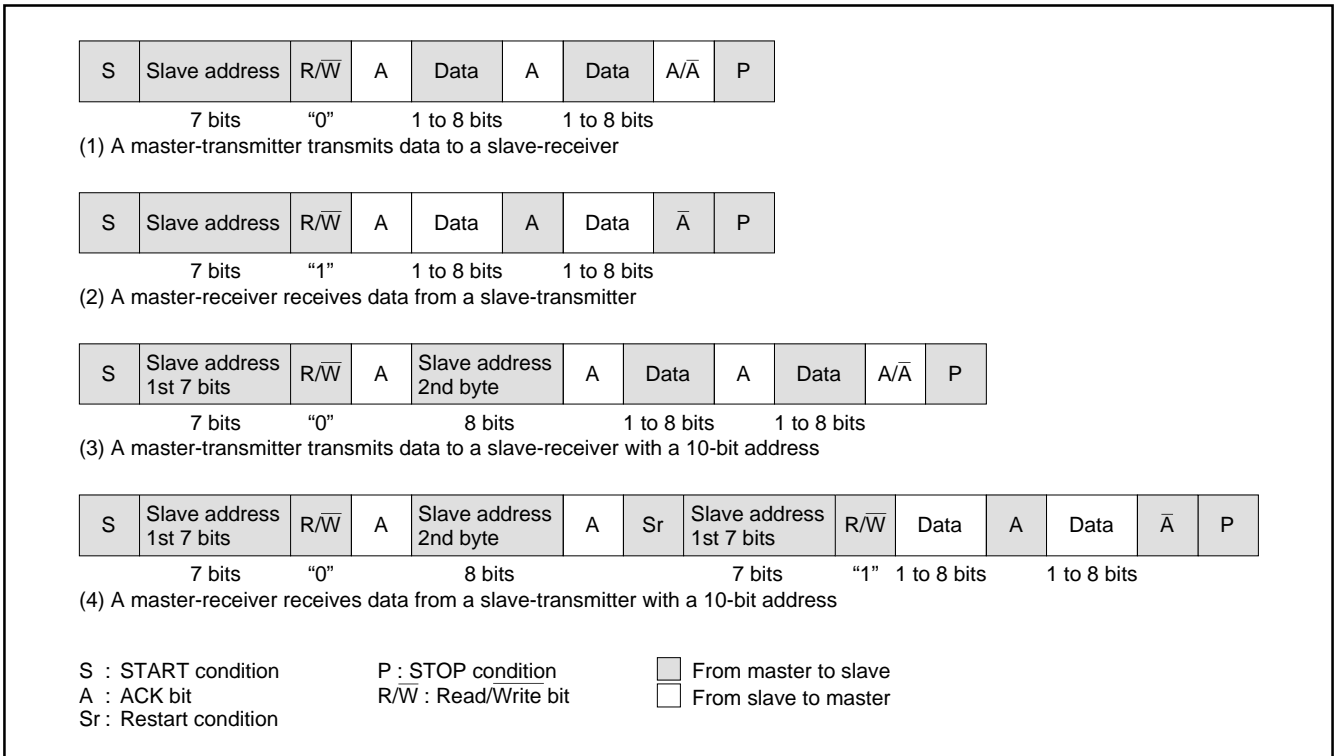

Fig. 61. Address Data Communication Format
To meet the 7-bit addressing format, set the 10BIT SAD bit of the I2C control register (address 00F916) to "0." The first 7-bit address data transmitted from the master is compared with the high-order 7-bit slave address stored in the I2C address register (address 00F716). At the time of this comparison, address comparison of the RBW bit of the I2C address register (address 00F716) is not made. For the data transmission format when the 7-bit addressing format is selected, refer to Figure 61, (1) and (2).
When the first-byte address data matches the slave address, the AAS bit of the I2C status register (address 00F816) is set to "1." After the second-byte address data is stored into the I2C data shift register (address 00F616), make an address comparison between the second-byte data and the slave address by software. When the address data of the 2nd bytes matches the slave address, set the RBW bit of the I2C address register (address 00F716) to "1" by software. This processing can match the 7-bit slave address and R/W data, which are received after a RESTART condition is detected, with the value of the I2C address register (address 00F716). For the data transmission format when the 10-bit addressing format is selected, refer to Figure 61, (3) and (4).